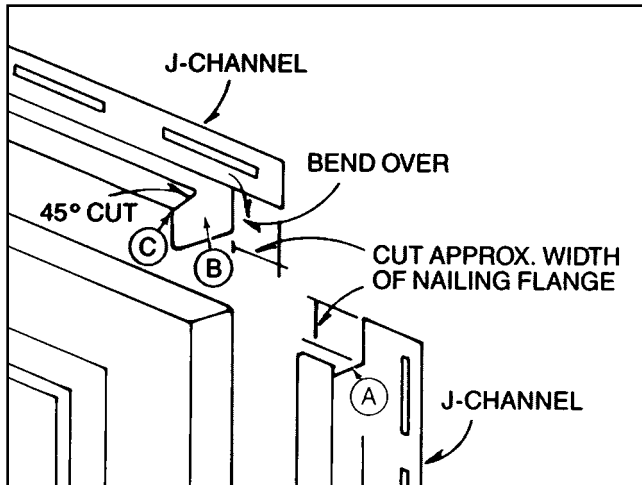
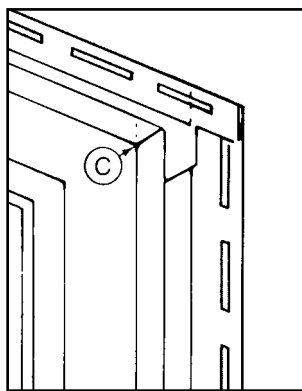

Fig 5.7
Fig 5.8
**4. DOOR AND WINDOW TRIM** J-Channel is used around doors and windows to receive siding. Around windows: measure top, bottom and sides of the window and add 1-1/2" to each measurement (3/4" for each overlapping piece). Cut a notch in the top and bottom of each side J-Channel leaving channel face and nailing slots uncut (Fig. 5.7 circle A). Cut top and bottom pieces in a similar manner but instead of removing the center portion of the channel, bend it down to make a flange (Fig. 5.7, circle B). Insert the flange into the side channels and miter cut the channel face of the top and bottom pieces for a neater appearance (Fig. 5.7 circle C and Fig. 5.8). J-Channel trim around doors should be handled in the same way. Remember, it is recommended to caulk around doors and windows before installing J-Channel trim pieces. Dual Undersill Trim can be used under windows for a more finished appearance where a siding panel's top lock has to be cut off to fit under a window.
- C. Cut a notch in the *side pieces* at both the top and bottom leaving the channel face and nailing flange uncut (see Fig. 5.7, page 11)